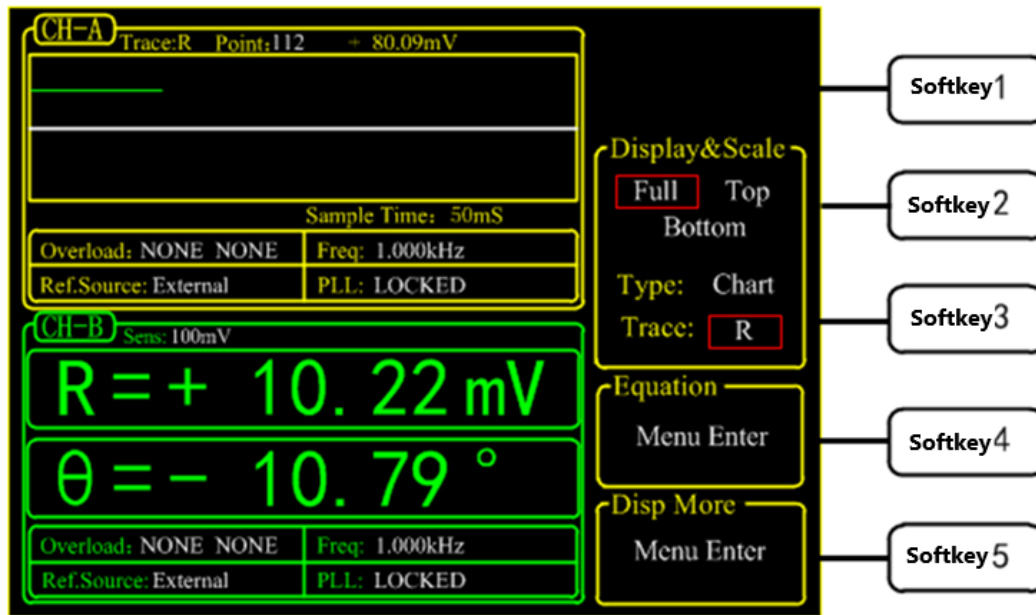

Fig.91 Display <θ> in XY Chart
Third, press [soft key 3] to highlight $\langle \text{Trace} \rangle$ and then choose $\langle \theta \rangle$. After these settings, the result is shown in Fig.91.